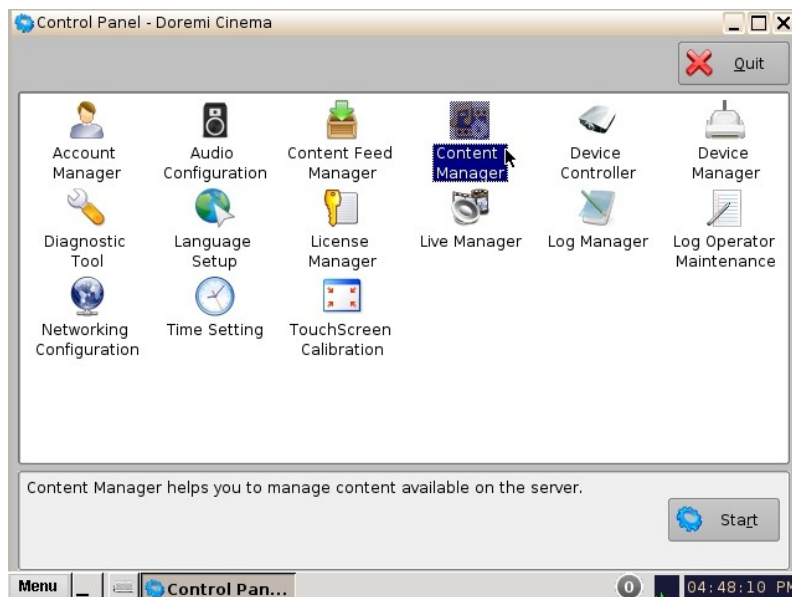

Figure 53: Control Panel with Content Manager Icon Selected
- To open the Content Manager application, go to Menu → Control Panel and double-click on the Content Manager icon (Figure 53).